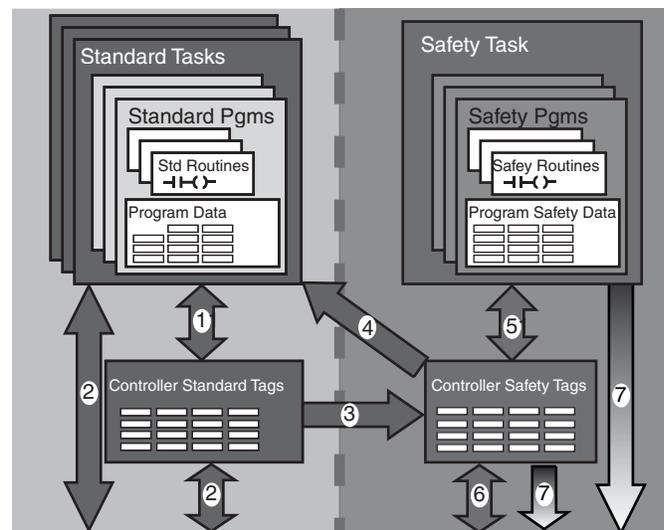

Figure 97: Standard and Safety Task Interaction
All standard and safety related functions are isolated from each other. Figure 97 shows a block diagram of allowed interaction between the standard and safety portions of the application. For example, safety tags can be directly read by the standard logic. Safety tags can be exchanged between GuardLogix controllers over EtherNet, ControlNet or DeviceNet. Safety tag data can be directly read by external devices, Human Machine Interfaces (HMI), personal computers (PC) or other controllers.